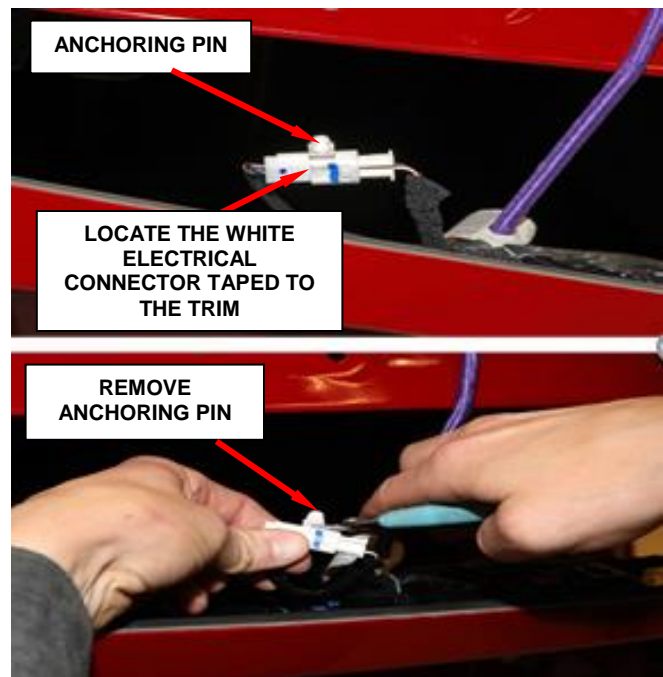

Figure 31 – Electrical Connection
12. Identify the electrical connection between the harness and tailgate opening control and pull it up from the trim (Figure 31).
13. Using an appropriate cutter, remove the anchoring pin, as shown. (Figure 31).